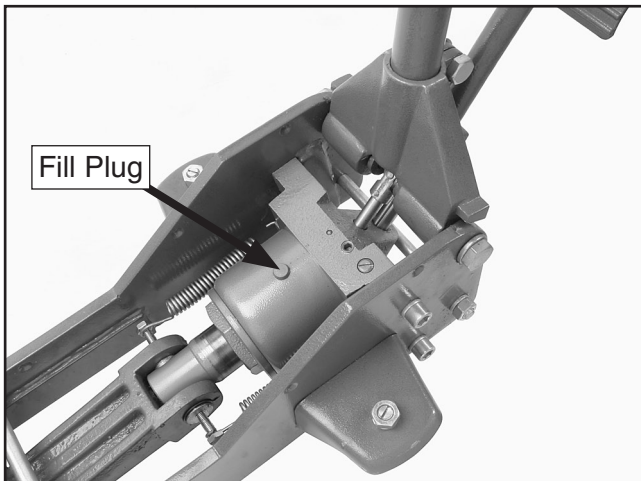

Figure 2. Fill plug.
2. Remove the top cover plate from the jack and remove the fill plug shown in **Figure 2**.